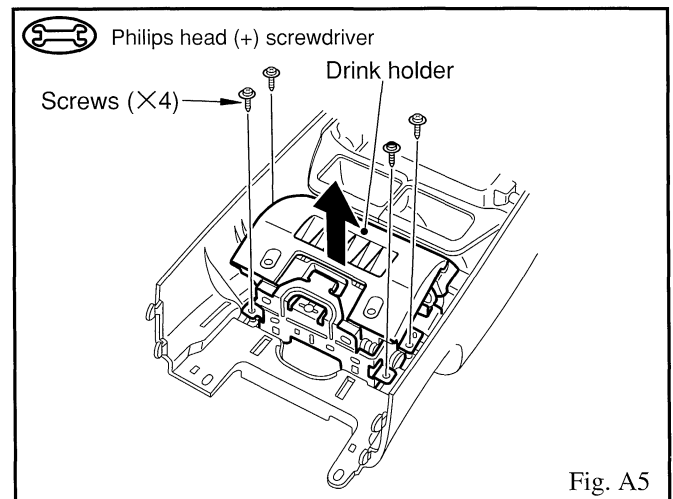

Fig. A5
- iii . Remove the four screws, then remove the drink holder. (Fig. A5)
- ➔ 1. Install the drink holder onto the rear console box. (Refer to Fig. A5 on page 3.)